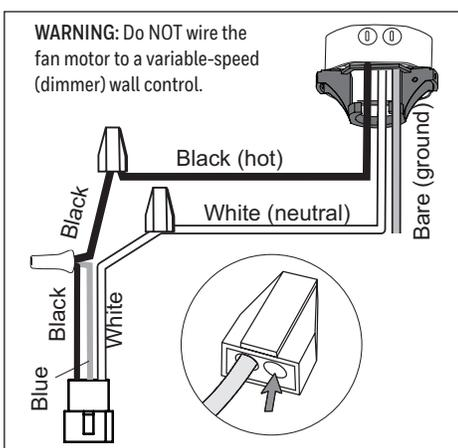

Figure 5.1
- Use the push-in connectors to connect the lead wire to the supply wires from outlet box according to the wiring diagram and the following instructions (Figure 5.1):